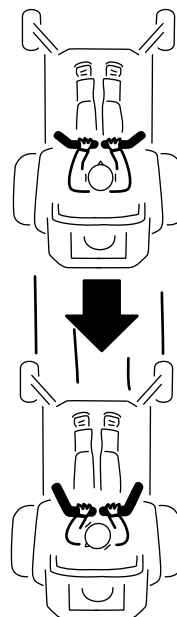

Figure 27
2. To go backward, slowly pull the motion-control levers rearward (Figure 27).